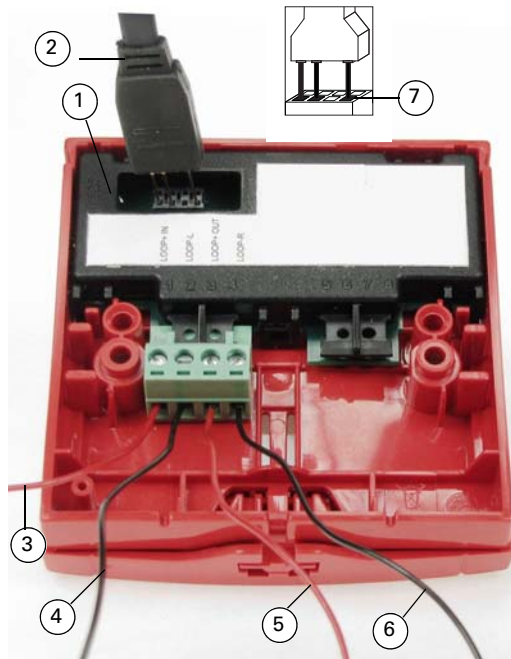

Fig. 2: FC420CP-I Rear View and Wiring Information
The FC420CP-I is programmed with the address prior to installation using an address programming tool. The associated ancillary programming lead plugs into the programming port (see Items 1 and 2 in Fig 2). Refer to Fig 2 for proper orientation.
Ensure that the pins of the ancillary programming lead are inserted completely into the lower row of the programming port (see item 7 in Fig 2) for effective communication with the Address programming tool.